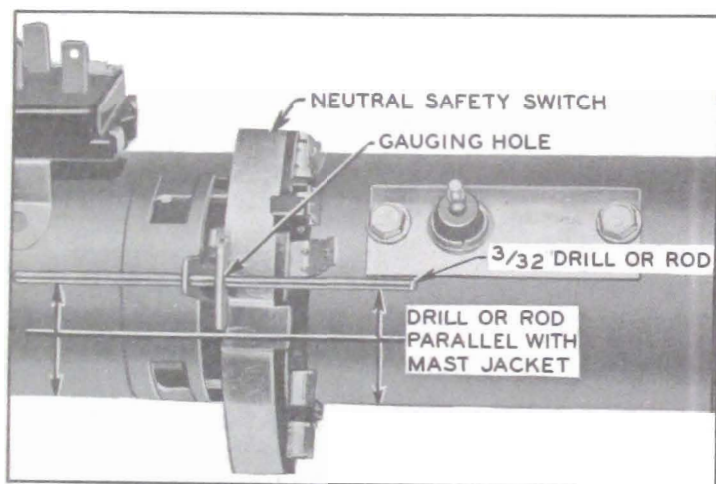

Figure 10-25—Checking Neutral Safety Switch Timing
3. Insert a $\frac{3}{32}$ " drill or a piece of $\frac{3}{32}$ " drill rod through gauging hole in operating lever and through gauging hole in switch body. **CAUTION:** *Be careful not to cause shift control lever to move out of neutral position. See figure 10-25.*